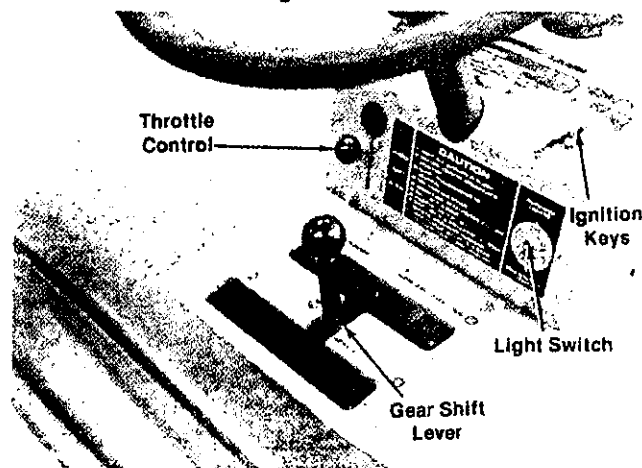

FIGURE 11.
a. Throttle Control. The throttle control is used to regulate the engine speed and choke the engine. The engine should be operated from $\frac{3}{4}$ to full throttle when operating the cutting deck. See figure 11.
b. Gear Shift Lever. The gear shift lever is used to shift into one of three Forward Gears, NEUTRAL or REVERSE. See figure 11.
c. **Light Switch.** Push the light switch up to turn on the lights. The lights will only operate when the engine is running. See figure 11.
See figure 11. Turn the key to the START position, to start the engine. When the engine is running, let the key return to the ON position. To stop the engine, turn the key to the left to the OFF position and remove it to prevent accidental starting.